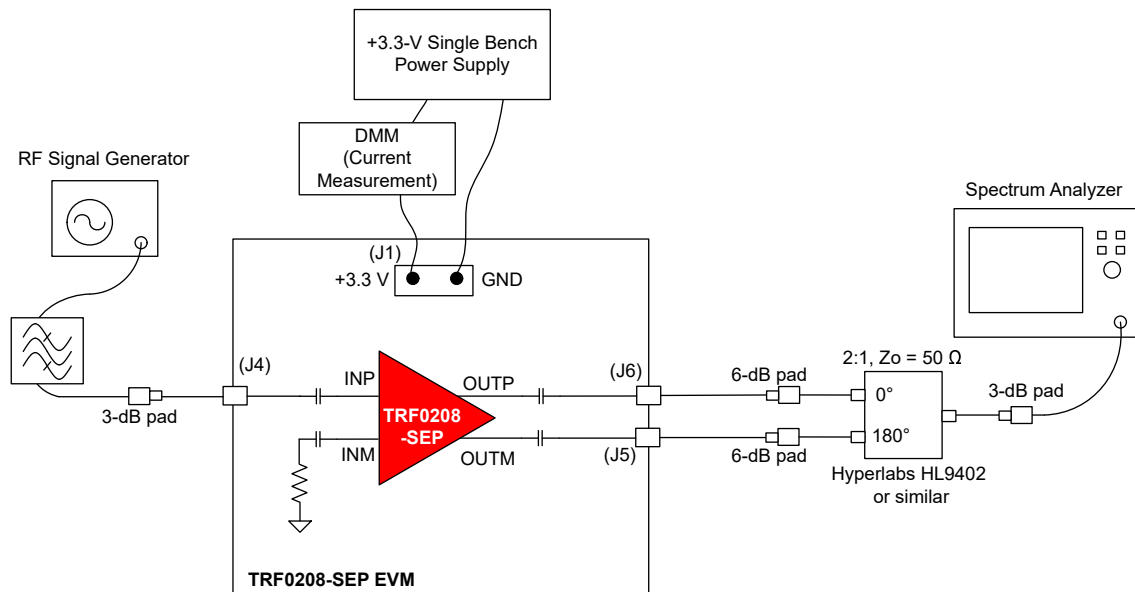

Figure 1-1. Single Tone Setup for Gain and Output P1dB
This section provides general usage information for the TRF0208-SEP EVM. Figure 1-1 shows a general single tone setup diagram, which is a reference point for the following instructions (some components, such as supply bypass capacitors, are omitted for clarity):
When measuring single tone distortion, use an RF band pass filter as shown in Figure 1-1.
- e. When connecting to a spectrum analyzer, the differential signal out of the EVM should be converted to a single-ended signal using an external passive balun as shown in Figure 1-1.